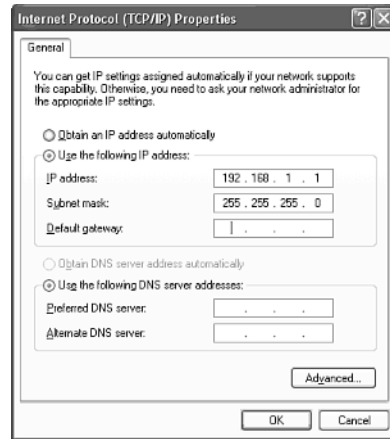

Figure 12.7 The Internet Protocol (TCP/IP) properties for a LAN connection under Windows XP.
5. If a specific IP address and subnet mask are listed (see Figure 12.7), write these down and store them in a safe place. You will need these to restore the configuration later.